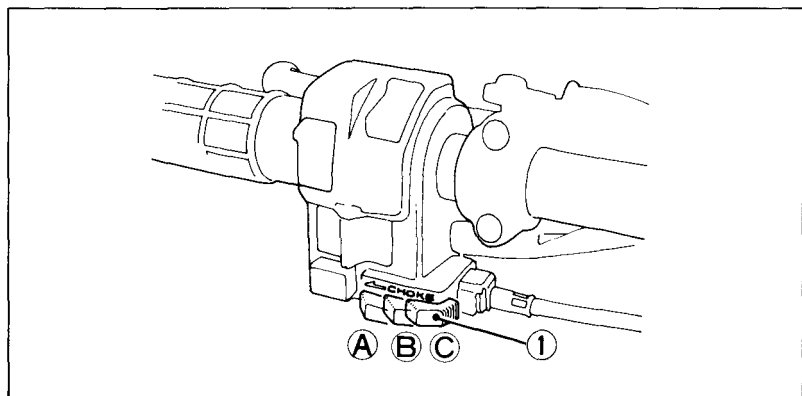

Fig. 2-6
The choke lever (Fig. 2-6) is next to the starter button. The choke has three positions: full choke (A), half choke (B), and off (C).
(1) Kick starter
(2) Right side cover
3. If the engine is cold, move the choke lever left to the full choke position (see Fig. 2-6).